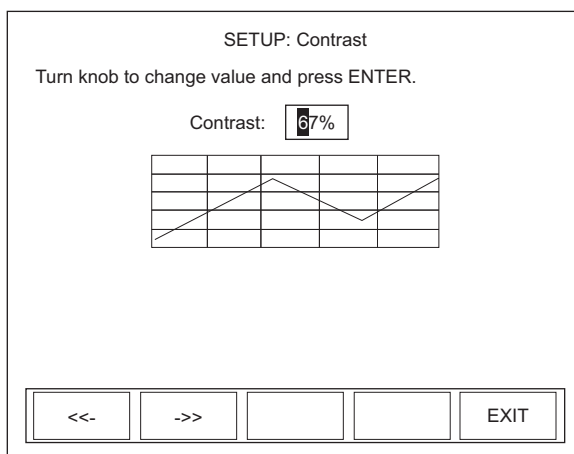

Figure 71. SETUP: Screen Contrast (Changing the Values)
2. Press the ENTER/SET button to Display the SETUP: Contrast screen (Figure 71).